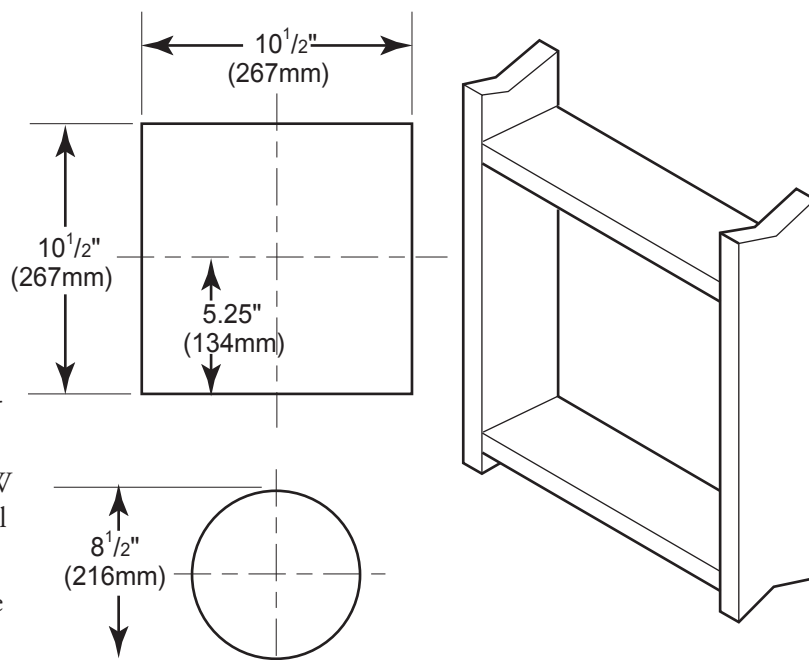

Figure 12 - Vent Opening Requirements
Combustible Walls: Cut a 10 $\frac{1}{2}$ "H x 10 $\frac{1}{2}$ " W (267mm x 267mm) hole through the exterior wall and frame as shown. See *Figure 12*.
1. Establish vent hole through the wall. *See Figure 12, page 17.*